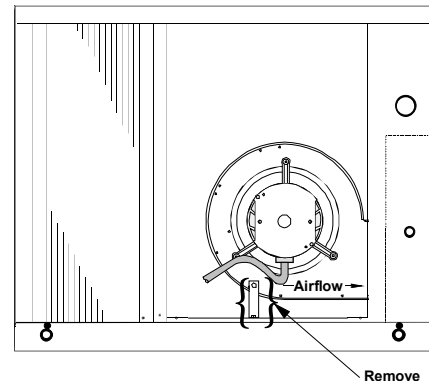

Figure 6 - Clamp Removal
3. Remove the clamp securing the blower assembly to the bottom of the unit. The clamp and screws may be discarded (Figure 6).